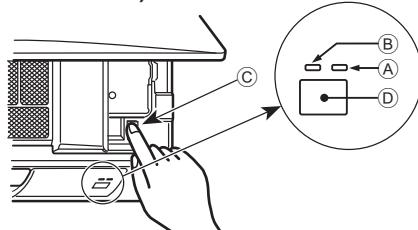
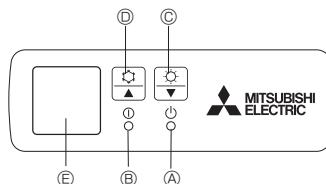

Fig. 5-1
Fig. 5-2
[Fig. 5-1] ① DEFROST/STAND BY lamp (Orange)
② Operation lamp (Green)
③ Emergency operation switch (cooling/heating)
④ Receiver
[Fig. 5-2] ① DEFROST/STAND BY lamp
- ② Operation lamp
- ③ Emergency operation switch (heating)
- ④ Emergency operation switch (cooling)
- ⑤ Receiver